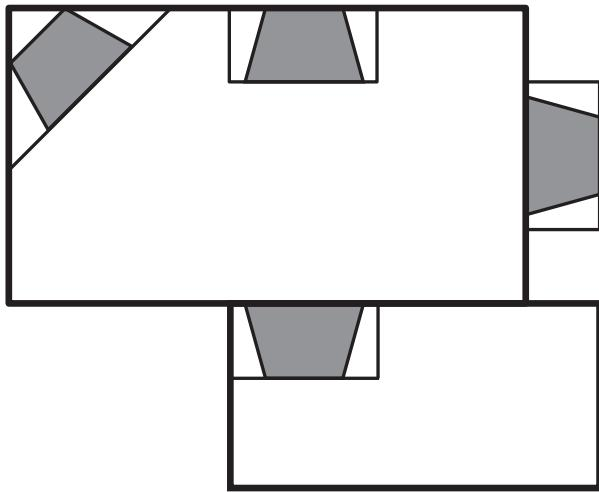

Figure 3 -
- Minimize modifications to existing construction. Refer to Figure 3 below for location suggestions.